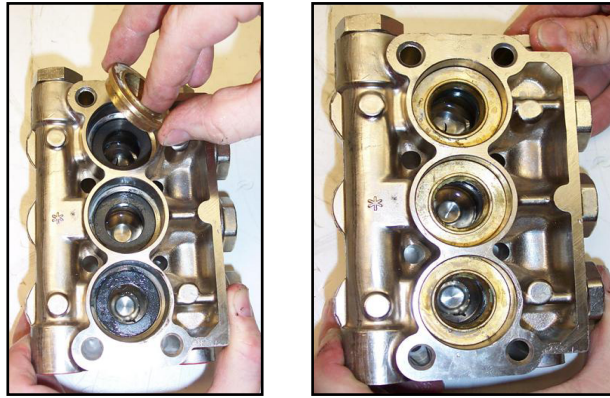

Figure 14. Install Retainers into Cavities
2. Press the new low pressure seal into the brass low pressure seal retainer and install a new O-ring on the outside (see Figure 14).